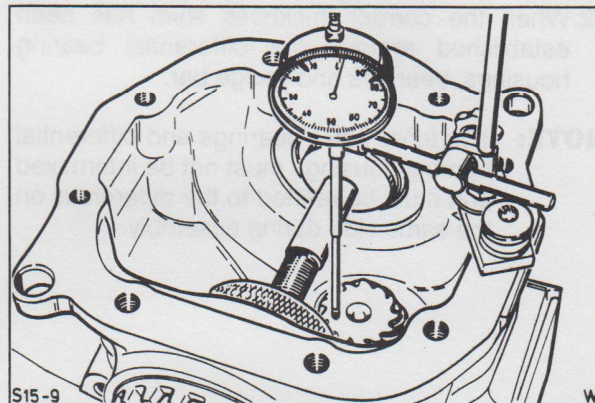

Fig. 56. Centre drive pinion using dial indicator.
30. Centralise the drive pinion as described in sub-operation 21, Fig. 56.